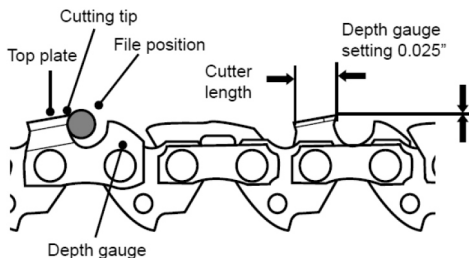

Fig. 37c
10. Use a depth gauge measuring instrument to check the height of the depth gauge. Depth gauge measuring jigs are available from most reputable tool merchants. (See Fig. 37c)